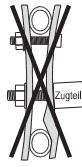

fig. 9
■ *Tighten the screws uniformly. Do not overtighten. The coupling plates must be parallel to one another and must not be bent (fig. 9).*